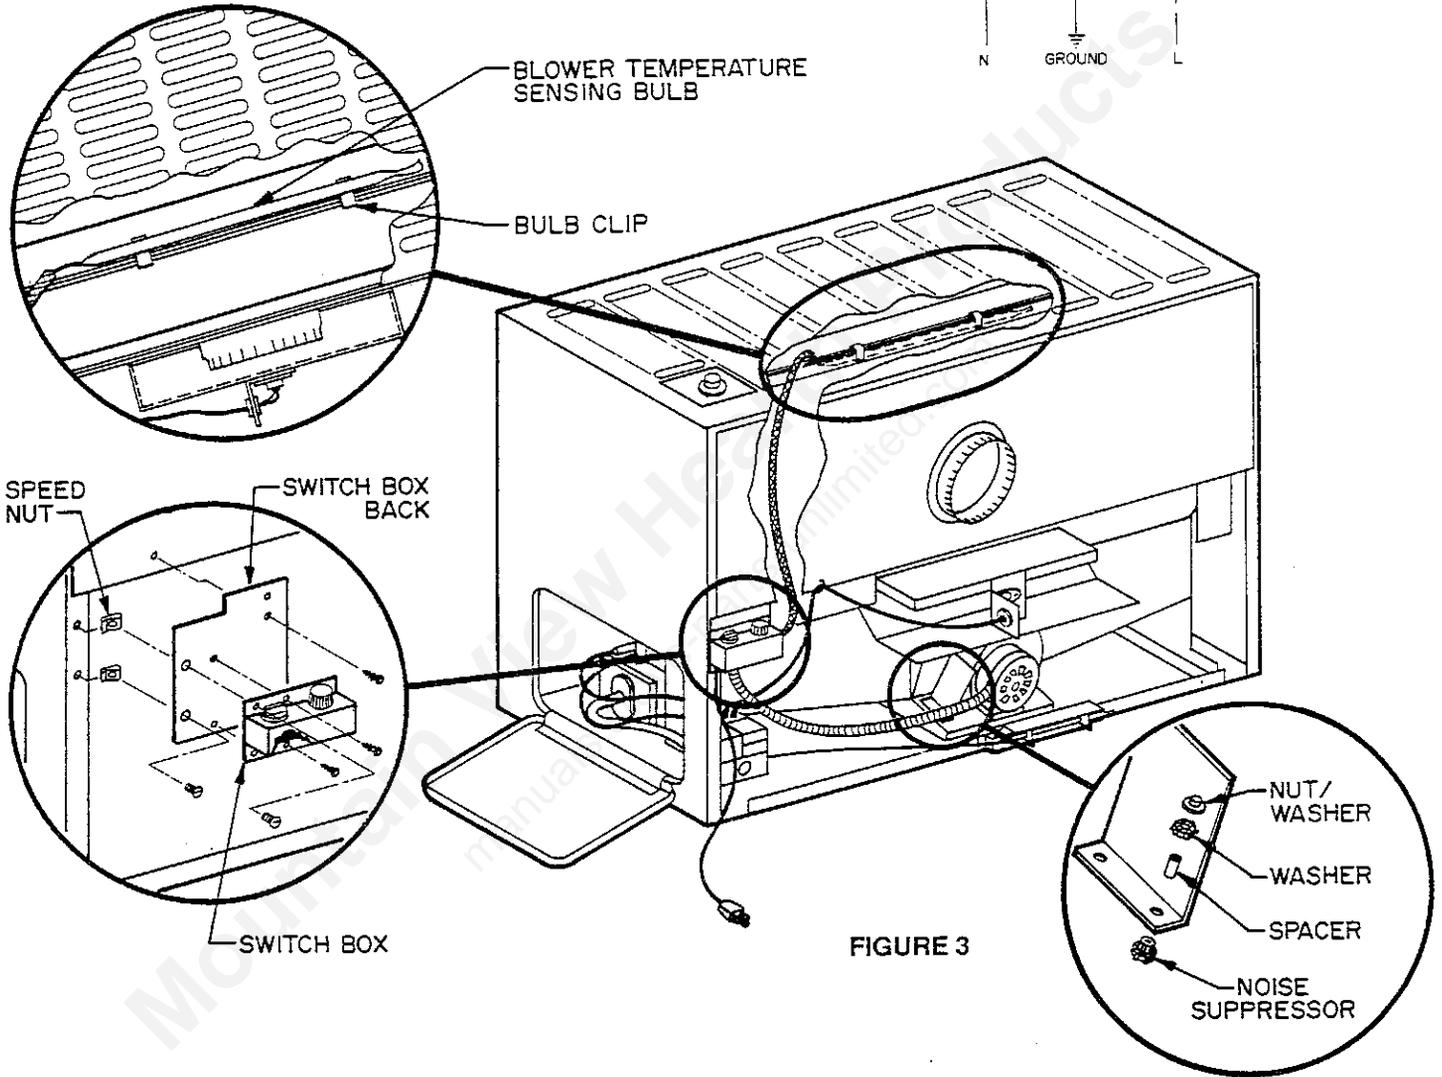

FIGURE 3
Refer to figure 3.
5. Remove the heater cabinet back and route the capillary and bulb as shown by figure 3. Attach the bulb at approximately the center of the rear chamber with the two clips provided. For best performance the bulb should be located on the front side of the flange.
7. Refer to Figure 3 and place a clip nut over the two holes in the cabinet side, attach the switch box back as shown, then attach the switch box. It may be necessary to remove the rotary switch knob in order to reach this nut. Gently pry upward on the knob if necessary.